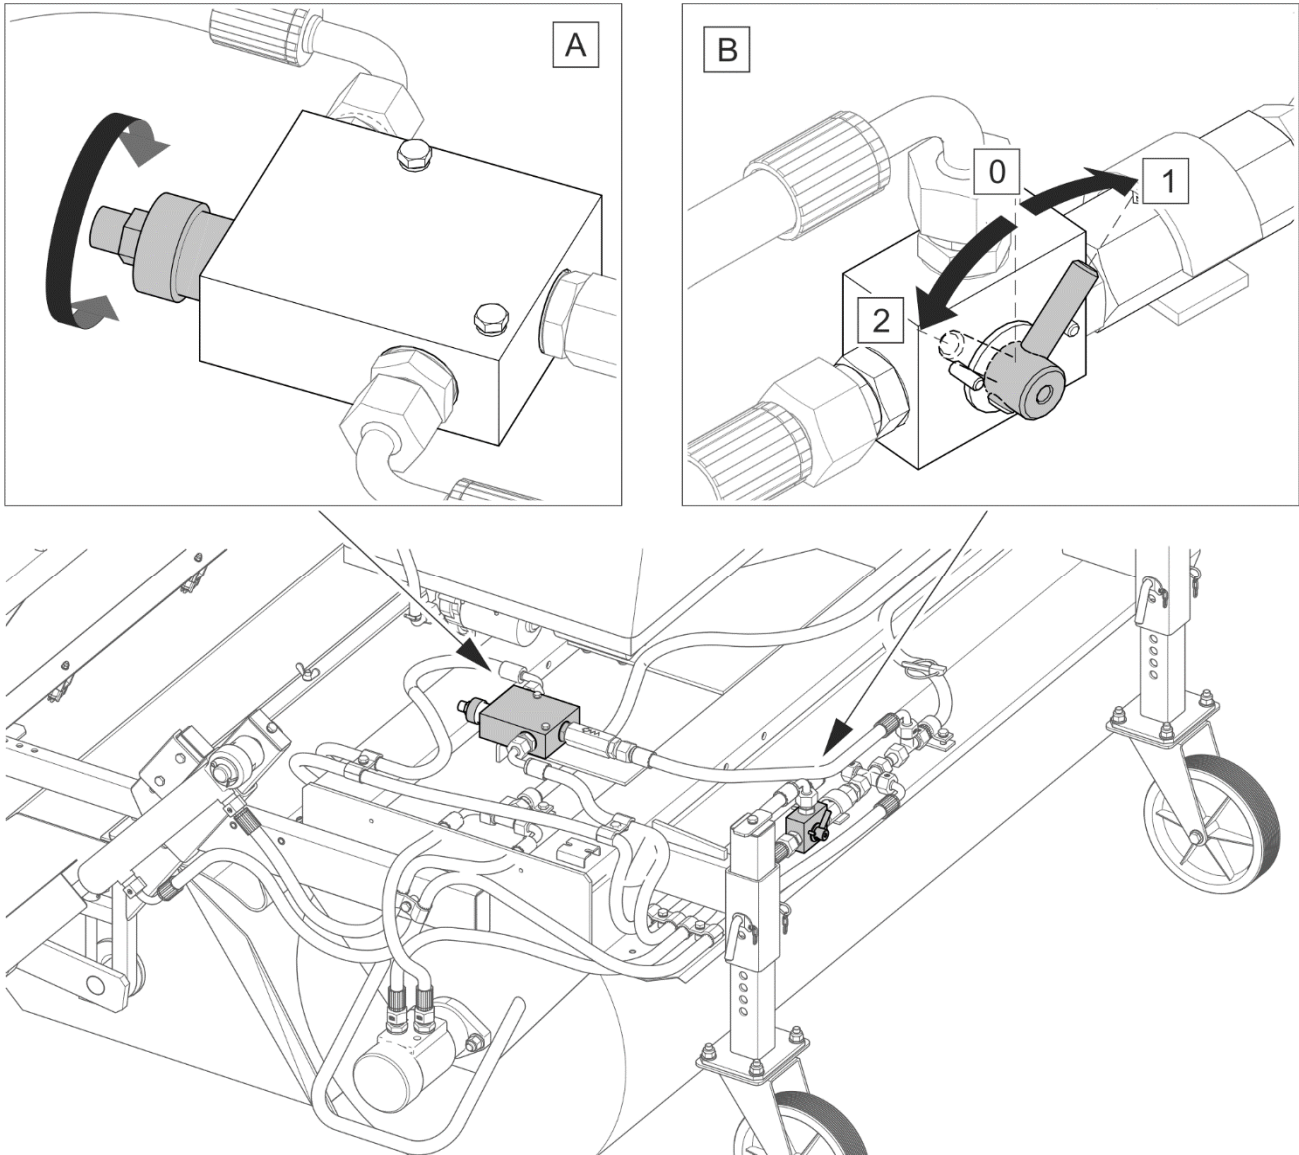

FIG. 5.7 Brush flow regulator and drive distributor
The sweepers with side brush (FIG. 5.7) are equipped with oil flow regulator (A) for smooth adjustment of the side brush rotation speed. Rotation speed is controlled using the knob on the oil flow regulator.
Distributor (B) (FIG. 5.7) makes it possible to: